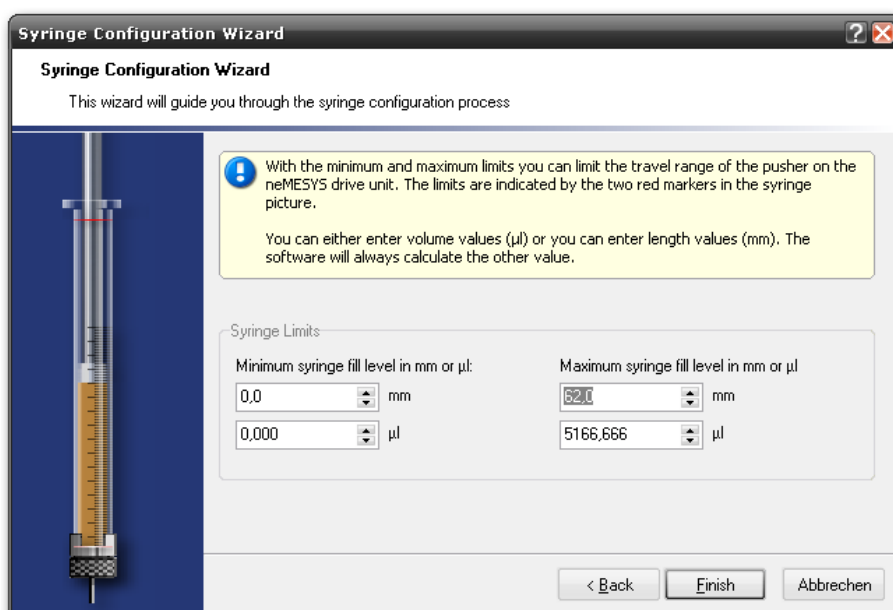

Figure 48 – Syringe Configuration Step 5 – Limits
- (5) Finally, set the limits or the maximum and minimum syringe fill level (Figure 48). This allows you to use two additional software limits to set the limits for the piston's movement range. You can enter these parameters in either microlitres or millimetres. If you are using a syringe stirrer, you should use these values to limit the movement range. If you enter the value in a unit (e.g. millimetres) the software calculates the value of the other unit (e.g. microlitres).